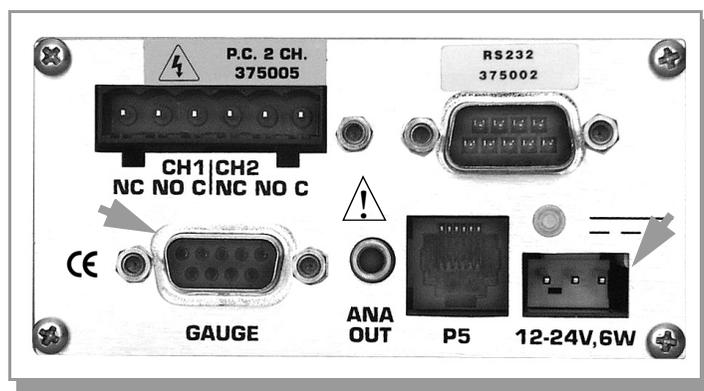

Figure 2-3 Rear Panel of Control Unit Showing Convectron Gauge Cable and Power Connections.
2. Connect the Convectron Gauge cable between the Controller and gauge. (Figure 2-3.)